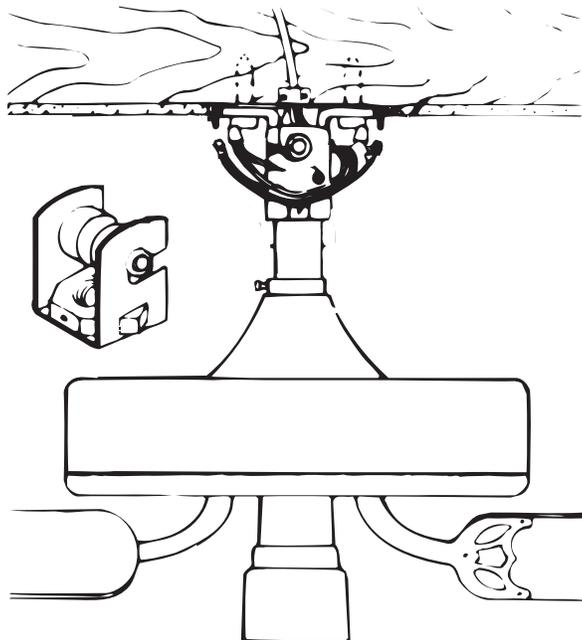

Figure 7
4. Lift the fan by the motor housing and hook the hanger bracket onto the pin in the rubber bushing. Make sure both ends of the pin are outside the hanger bracket. See Figure 7.